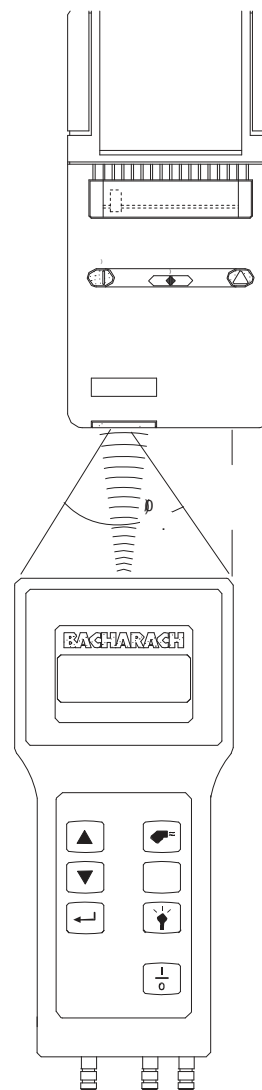

Figure 4-5. Aligning the Printer's IR input to the Analyzer
1. Place analyzer in-line with the printer's IR input (see Figure 4-5).
2. Use the **st** keys to move the cursor (z) in front of the print (P) function.